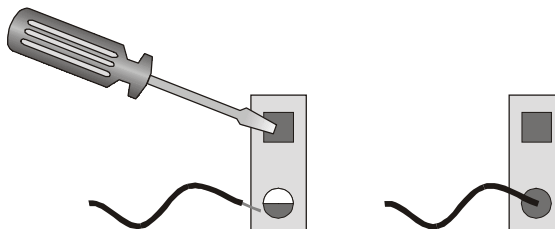

Figure 2-5 Connecting the Line – Step 3
3. Insert the stripped end of the wire and remove the screwdriver (see *Figure 2-5*).